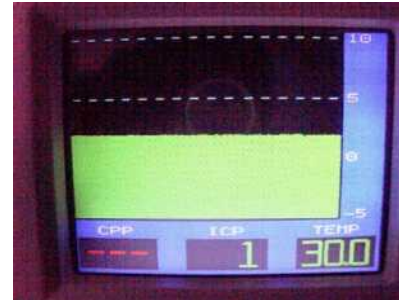

Figure 2-4 CPP/ICP/ICT Display
4. Remove the Catheter from the kit tray, and firmly connect the Transducer Connector(s) into the Preamp Connector(s) (Figure 2-3). (If a pressure only catheter is used, then the temperature connector will remain unconnected). After a short system test, the MPM-1 Display will change to the ICP/ICT display (Figure 2-4).